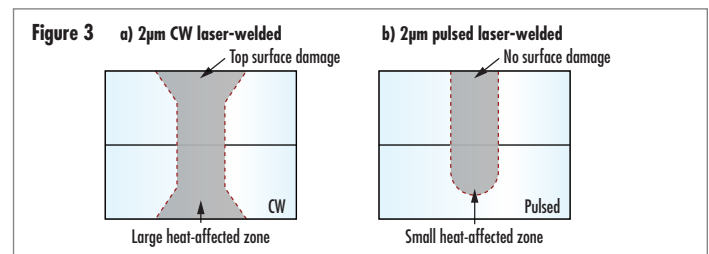

Figure 3: Pulsed lasers should be used for highly precise plastic welding due to the smaller amount of surface damage
2 $\mu$ m lasers are steadily replacing other light sources due to their low cost, ease of use, and range of energy delivery methods such as pulsed and continuous wave beams. Many question whether a pulsed or continuous wave (CW) laser should be used for their materials processing application. **Figure 3** shows the differences between using a 2 $\mu$ m CW laser and a 2 $\mu$ m pulsed laser for plastic welding.